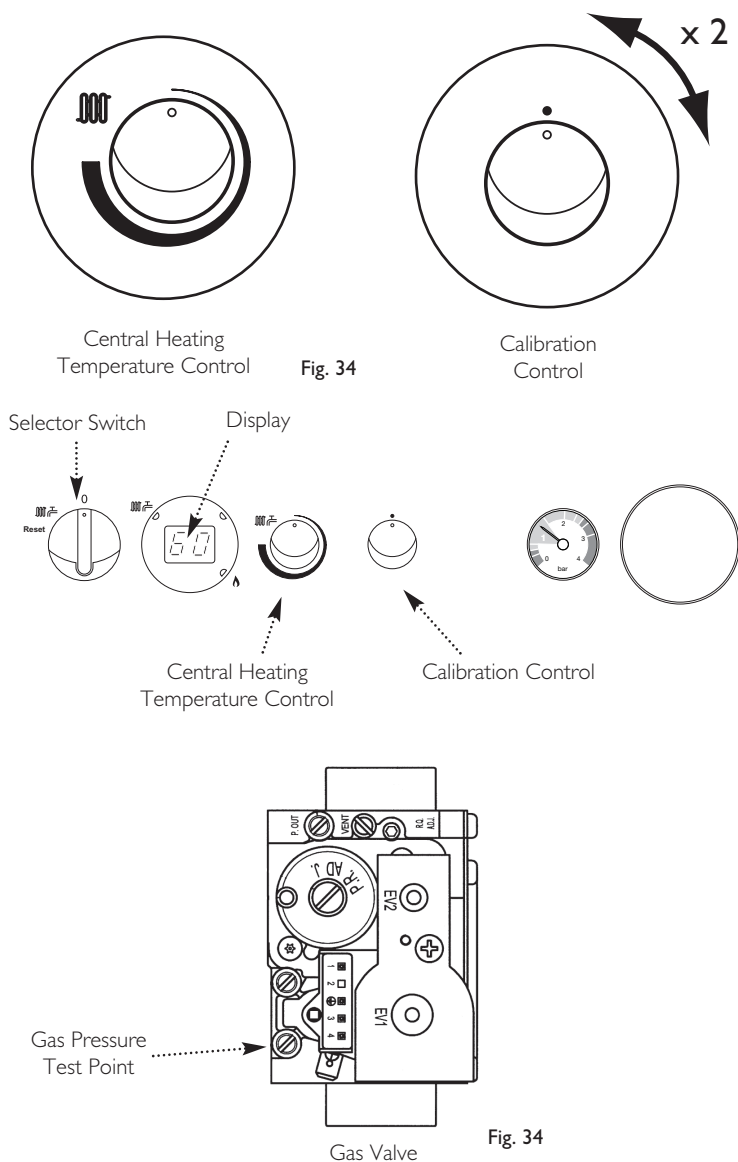

Fig. 34
3. Turn both temperature control knobs fully anticlockwise, then quickly turn the Calibration Control knob $\frac{1}{4}$ clockwise twice and back fully anticlockwise (Fig. 34).
6. With the boiler operating in the maximum rate condition check that the operational (working) gas pressure at the inlet gas pressure test point (Fig. 34) is in accordance with B.S. 6798 & B.S. 6891.